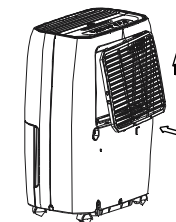

Fig.10
- Insert the air filter into the unit from underside to upside. See Fig.10.